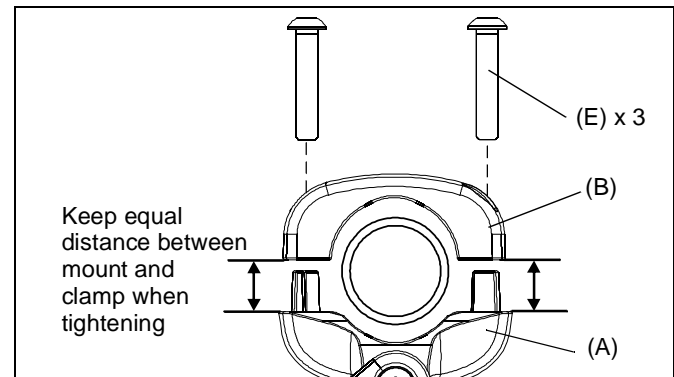

Figure 4
NOTE: Equally tighten screws (E) against rear clamp (B) and front clamp (A). (See Figure 4)